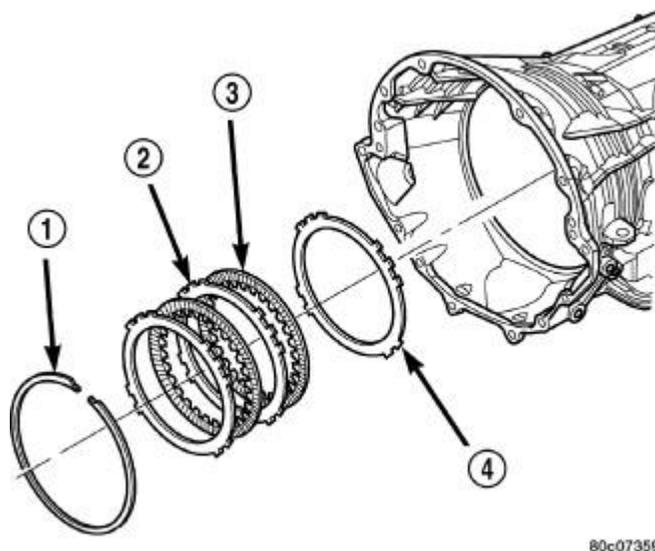

Fig. 65: 2C Clutch Pack & Snap-Ring
8. Install the 2C reaction plate (4) with the beveled edge down (rearward) into the transmission case. Refer to **Fig. 65**.
9. Install the 2C clutch pack (2, 3) into the transmission case. Refer to **Fig. 65**.
10. Install the flat 2C clutch snap-ring (1) into the transmission case. Refer to **Fig. 65**.